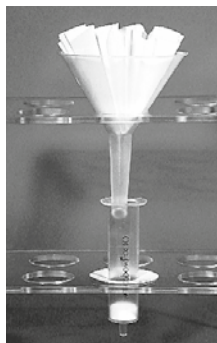

Figure 2 Correct use of the NucleoBond® Folded Filter, NucleoBond® Column placed in a Plastic Washer (reusable)
- For the NucleoBond® AX 500 Column use the supplied **NucleoBond® Folded Filters** for filtration of the lysate (Figure 2). Folded filters are designed to eliminate the centrifugation step after alkaline lysis for plasmid isolation. The filters completely remove SDS and precipitate cellular debris from plasmid samples. For correct use please follow the instructions given in step 4 of the corresponding protocol.